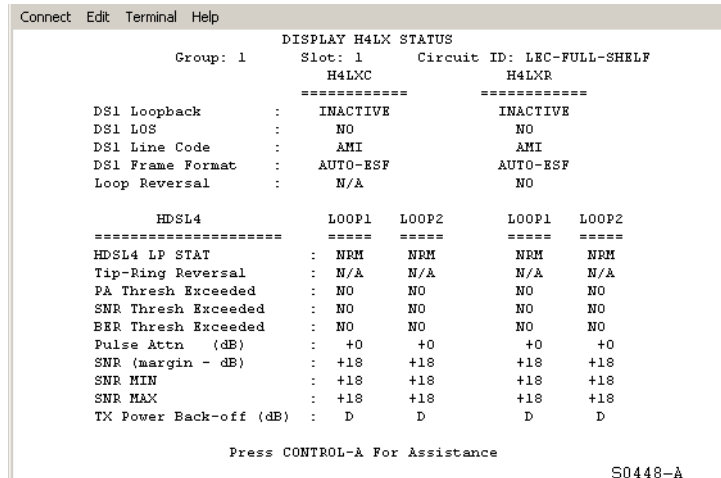
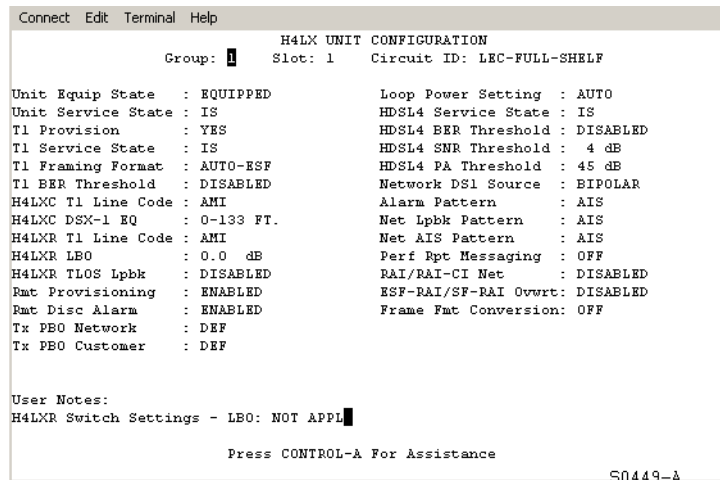

Figure 8. Typical H4LXC Status Screen
Figure 10. H4LX Unit Configuration Screen
- 2 From the Display Status menu, select **5. Display HLX /H2LX/ H4LX Status**. The H4LXC Status screen appears, as shown in Figure 8 on page 14. Table 7 on page 14 provides a key to the H4LXC status columns in Figure 9 on page 16 and Figure 10 on page 16.
- 2 From the Unit Configuration menu, select **6. HLX / H2LX / H4LX Configuration**. The H4LXC Unit Configuration screen appears, as shown in **Figure 10**.